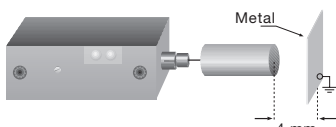
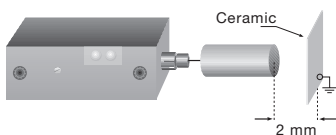

Fig. 1.13
Fig. 1.14
**1st example:** a ceramic plate is to be scanned by an SK-4-10-b device. Using the sensor amplifier, first set the sensor to the maximum sensing distance S of 4 mm (specified in our catalogue) for metal or for an approximation for your hand (Fig. 1.13). With this preset distance of 4 mm, move the sensor towards the ceramic plate. The sensing distance S for the ceramic plate will then have decreased to approx. 2 mm (Fig. 1.14).